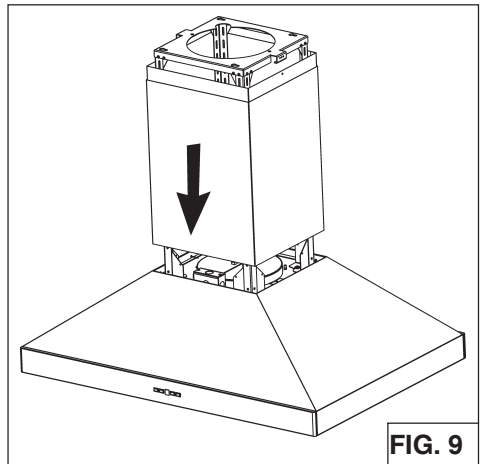
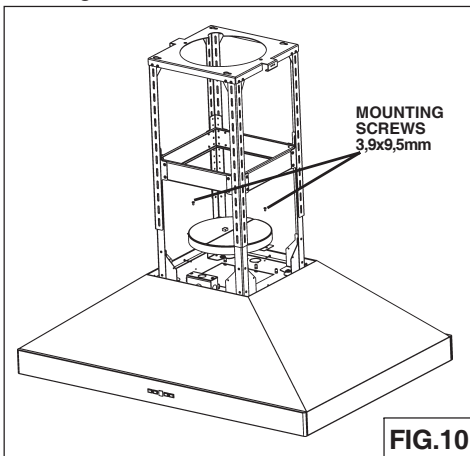

FIG. 9
FIG.10
- Insert the **upper flue and lower flue** in the support frame (Fig.9).
- Mount the hood to the ceiling using the (4) previously installed 6x70mm screws. Tighten these screws. Install (2) additional 6x70mm screws as shown in the illustration. Make sure all (6) screws are secure.
- Secure the hood to the ceiling and install the (2) additional screws (6x70mm).
- Fix the duct connector onto the hood using 2 screws (3.9x9.5mm) located in the Hardware Package (Fig.10).